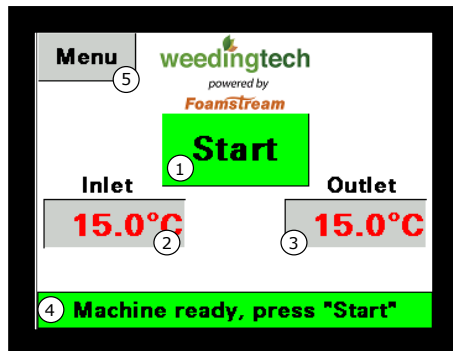

Figure 5 - Start screen of the PLC
- ✓ Wait until the purge is completed. A new screen will appear, represented in Figure 5.